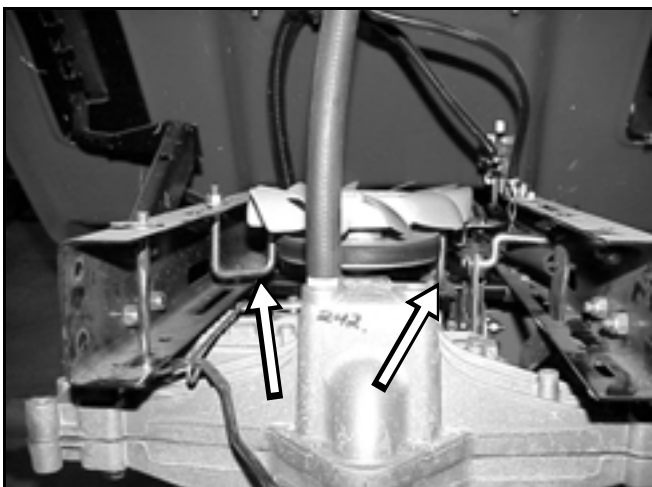

Figure 74
4. Loosen the left and right rear transaxle belt guides and move them away from the belt (Figure 74).